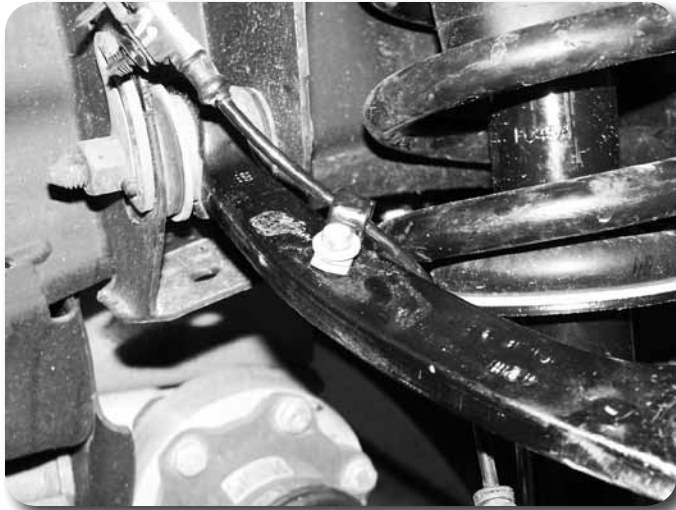

Figure 31
63. Attach the ABS line to the upper control arm with the original brake line mounting bolt and provided wire clamp **Figure 31**.